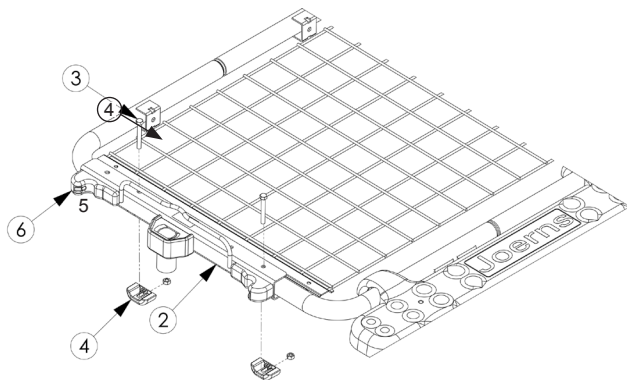

Figure 3
2. Orient the mounting channel (Item 2) with the bed as shown in Figure 3 on page 5.
5. Insert 5/16" bolts (Item 3) through holes of mounting channel and holes on sleep surface (Figure 3 on page 5) and fasten securely with 5/16" locknuts in retainers (Item 4).